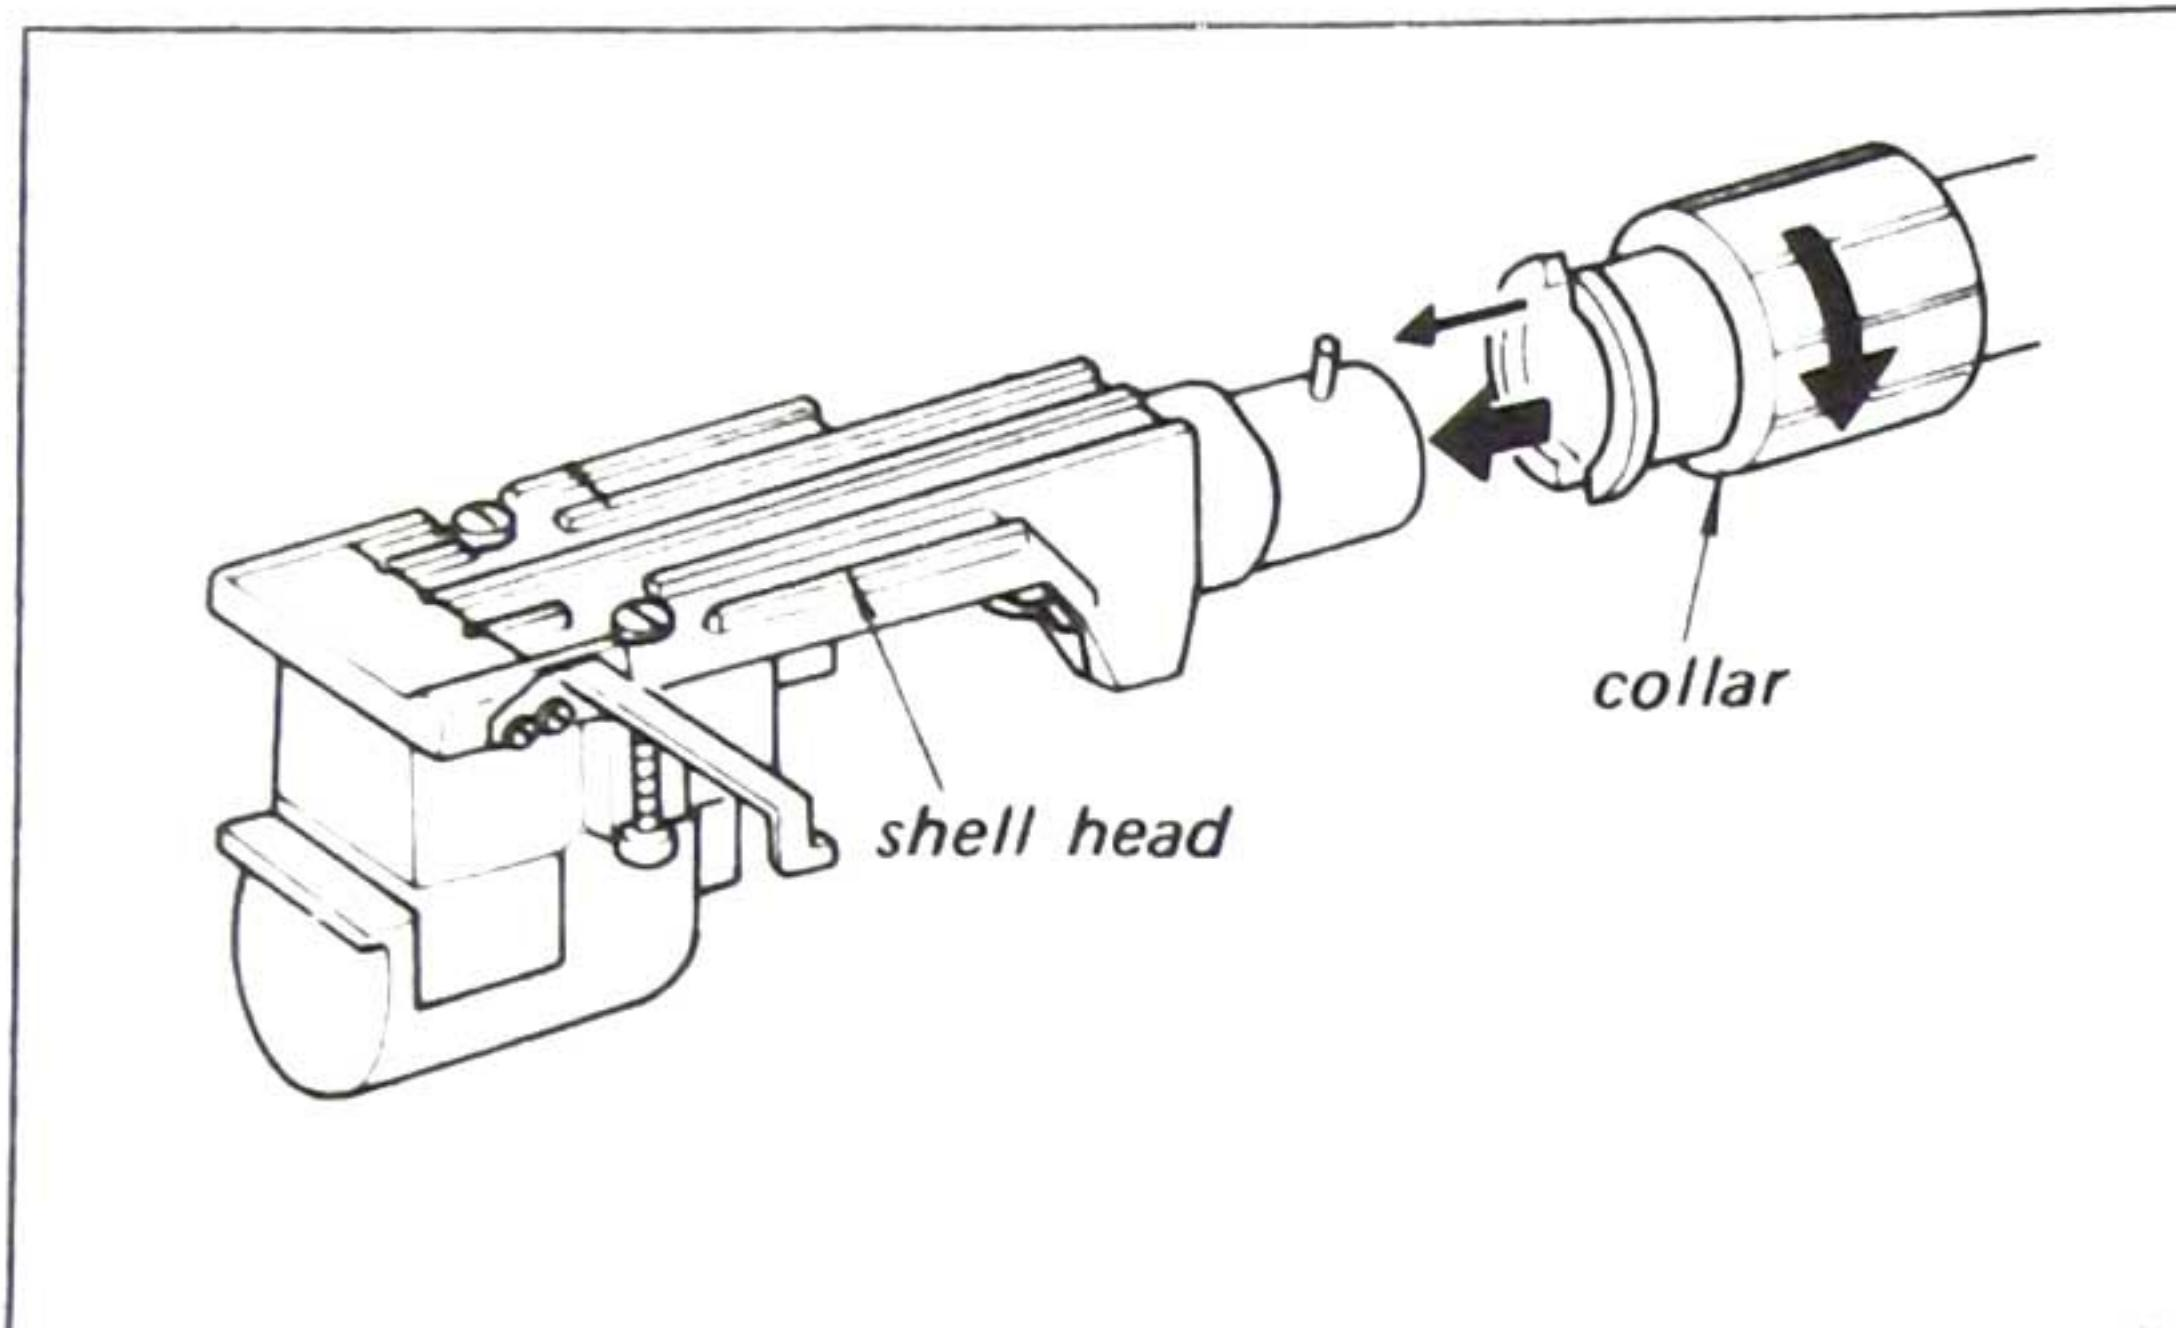

Fig. 2-6. Shell head removal
1. Remove the shell head from the tonearm by loosening the collar as shown in Fig. 2-6.
2. Remove the shell head from the tonearm by loosening the collar as shown in Fig. 2-6.